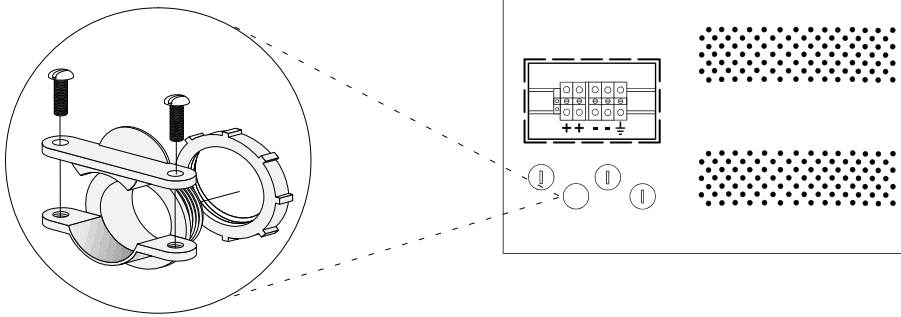

Figure 20. RBC-3 Strain Relief Fitting
2. Install a strain relief fitting in the knockout hole you made on the RBC-3 rear panel (see Figure 20).